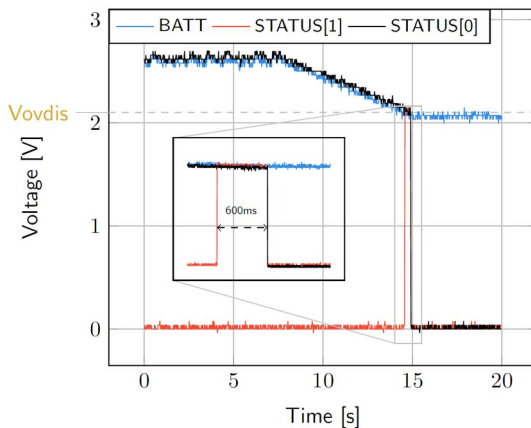

Figure 5: LDOs disabled around 600 ms after **BATT** reaches  $V_{OVDIS}$
- **BATT**: Voltage decreases as the system consumes the power accumulated in the storage element. The voltage remains stable after crossing  $V_{OVDIS}$  (see Figure 5).
- **STATUS[0]**: De-asserted when the LDOs are no longer available as the storage element is running out of energy. This happens 600 ms after **STATUS[1]** assertion (see Figure 5).
- **STATUS[1]**: Asserted for 600ms when the storage element voltage (**BATT**) falls below  $V_{OVDIS}$  (see Figure 5).